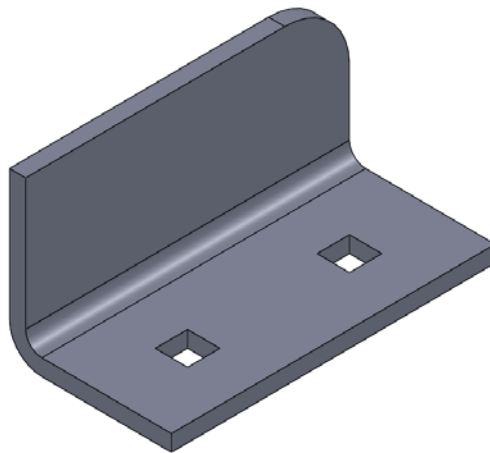

Figure Q1(c)
- [c] In Group Technology (GT), parts are identified and grouped into families by classification and coding systems. Decision Tree is one of the coding systems in GT. Based on the given part in Figure Q1 (c), construct a Decision Tree based on the design and manufacturing attributes.**